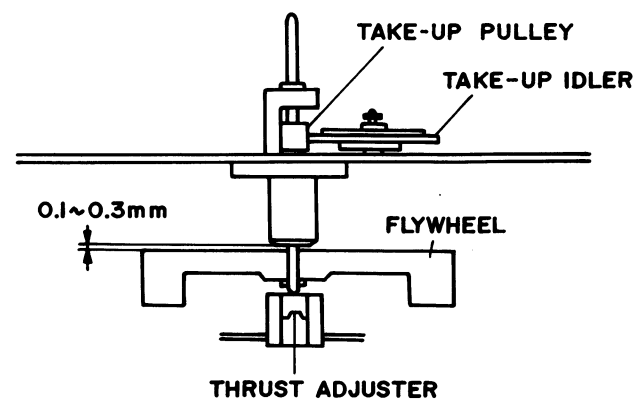

Figure 55-3
■ FLYWHEEL THRUST CLEARANCE ADJUSTMENT (Refer to Figure 55-3)